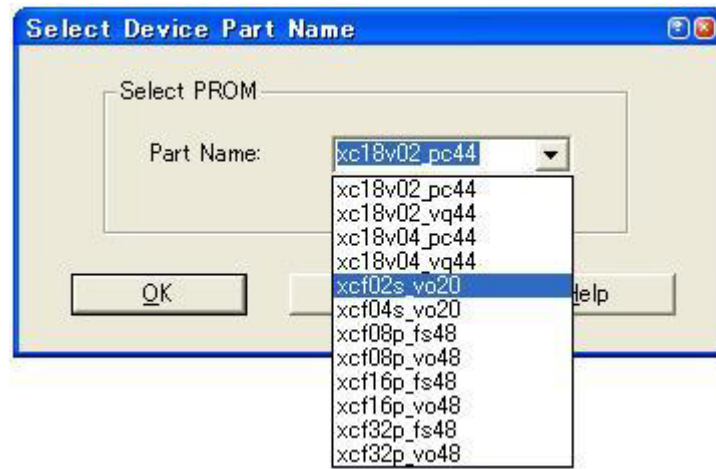

Figure B-12 Select Device Part Name Dialog
- If you selected a PROM design file, the **Select Device Part Name** dialog opens as shown in Figure B-12. From the combo box select the appropriate device name.